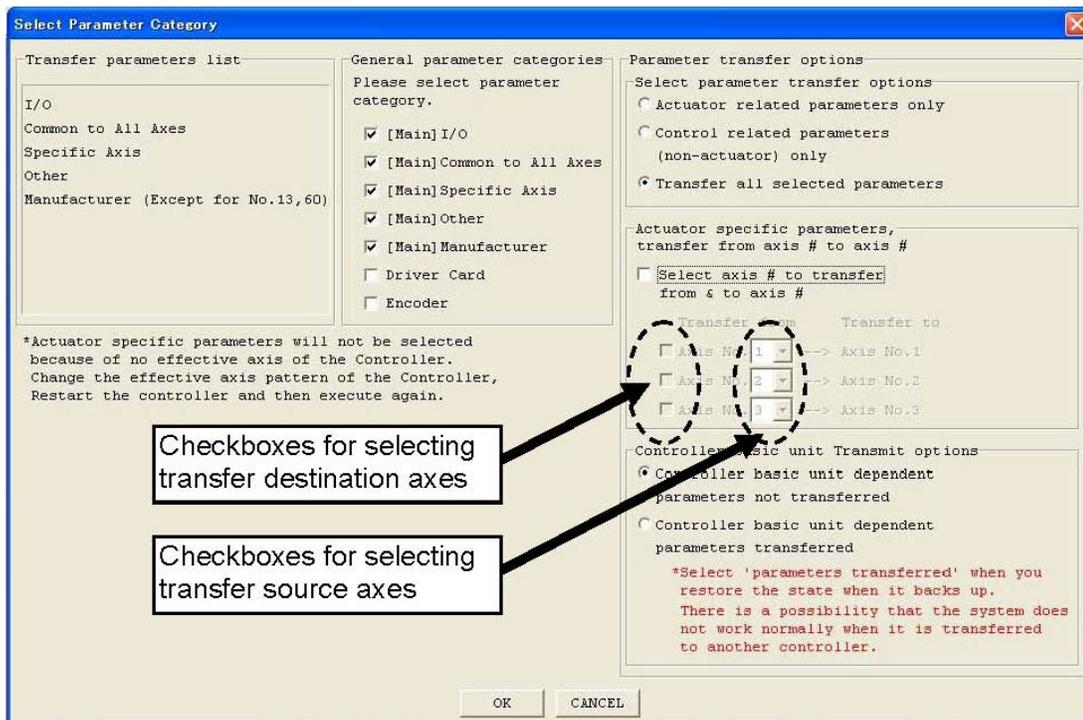
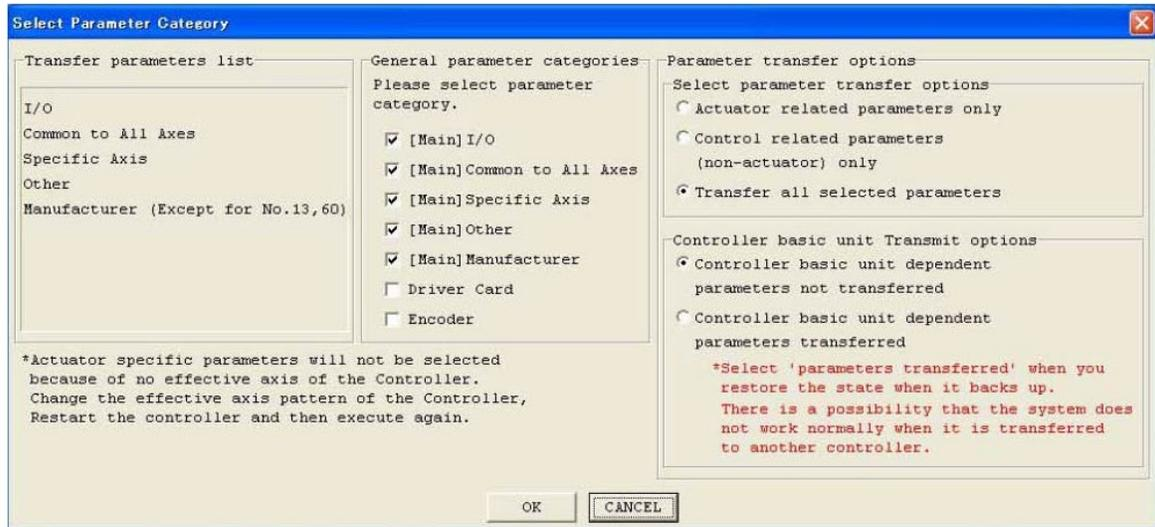
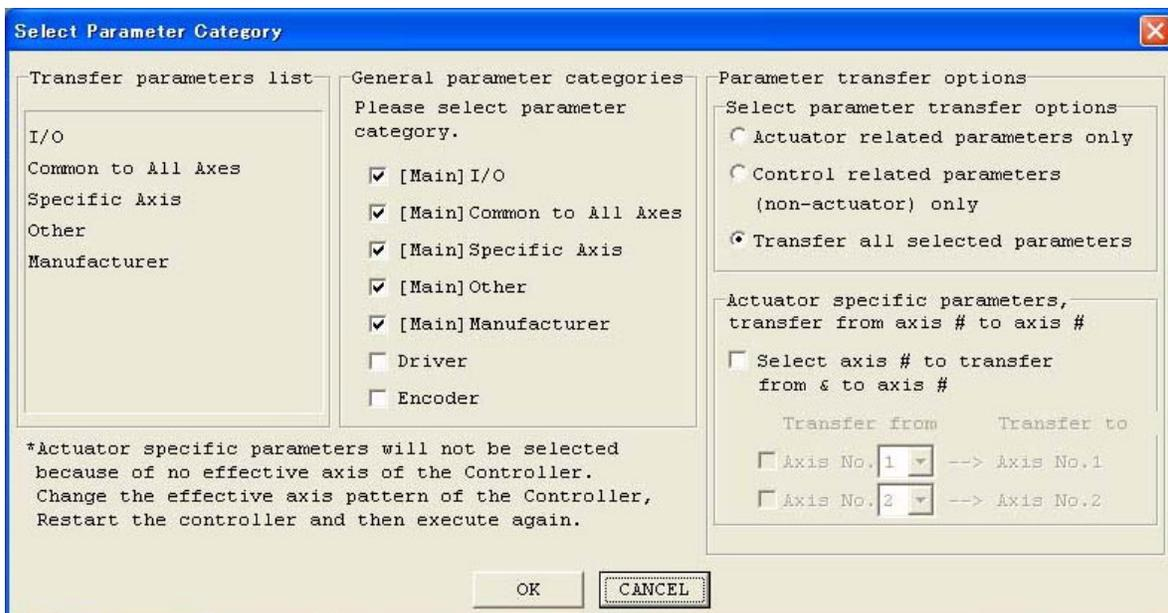

Fig. 8.10 Select Parameter Category Window
Fig. 8.11 Select Parameter Category Window (X-SEL-JX/KX)
Fig. 8.12 Select Parameter Category Window (SSEL, ASEL, PSEL)
- (1) Select **Open** from the **File** menu or click the corresponding button in the toolbar. In the file selection dialog box, select the parameter file (extension: .xpm) you want to transfer to the controller. Load the file into the PC software and open the parameter edit window.
- (2) Click the **Transfer to Controller** button in the parameter edit window.
- (3) The Select Parameter Category window (Fig. 8.10) will be displayed. In the case of X-SEL-JX/KX, the screen not showing Actuator specific parameters, transfer from axis # to axis # (Fig. 8.11) will be displayed. In the case of SSEL, the screen not showing Controller basic unit Transmit options (Fig. 8.12) will be displayed. This window has the following items: (The specific items will vary depending on the controller.)